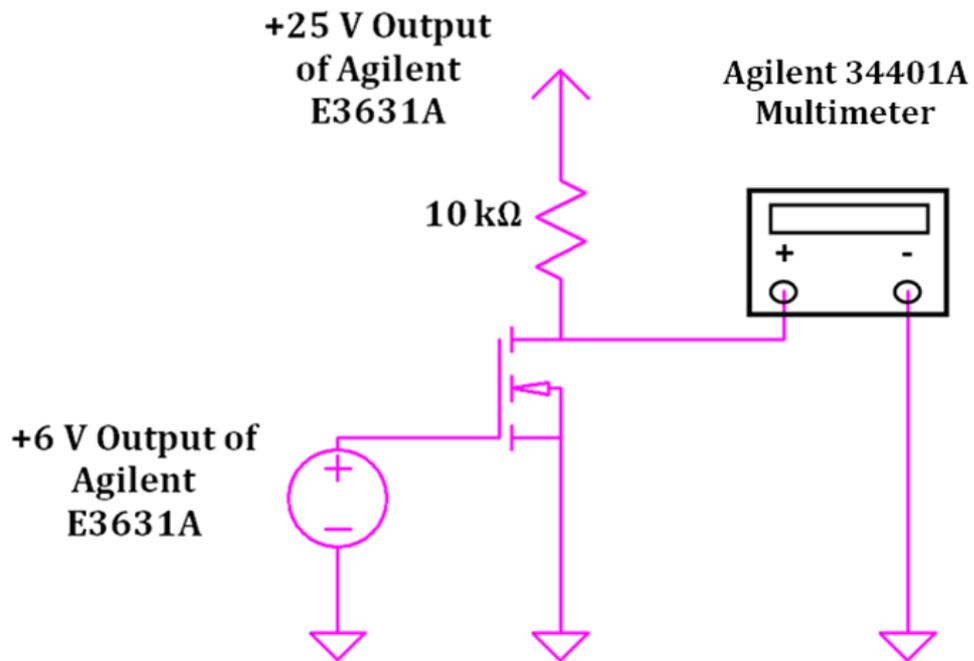

Fig. 9: Circuit Schematic for the resistor loaded NMOS inverter
1) Construct the circuit shown in Fig. 9. Note that **pin 14** of **CD4007** is connected to **+25 V output** of the power supply and **pin 7** is connected to **ground**.